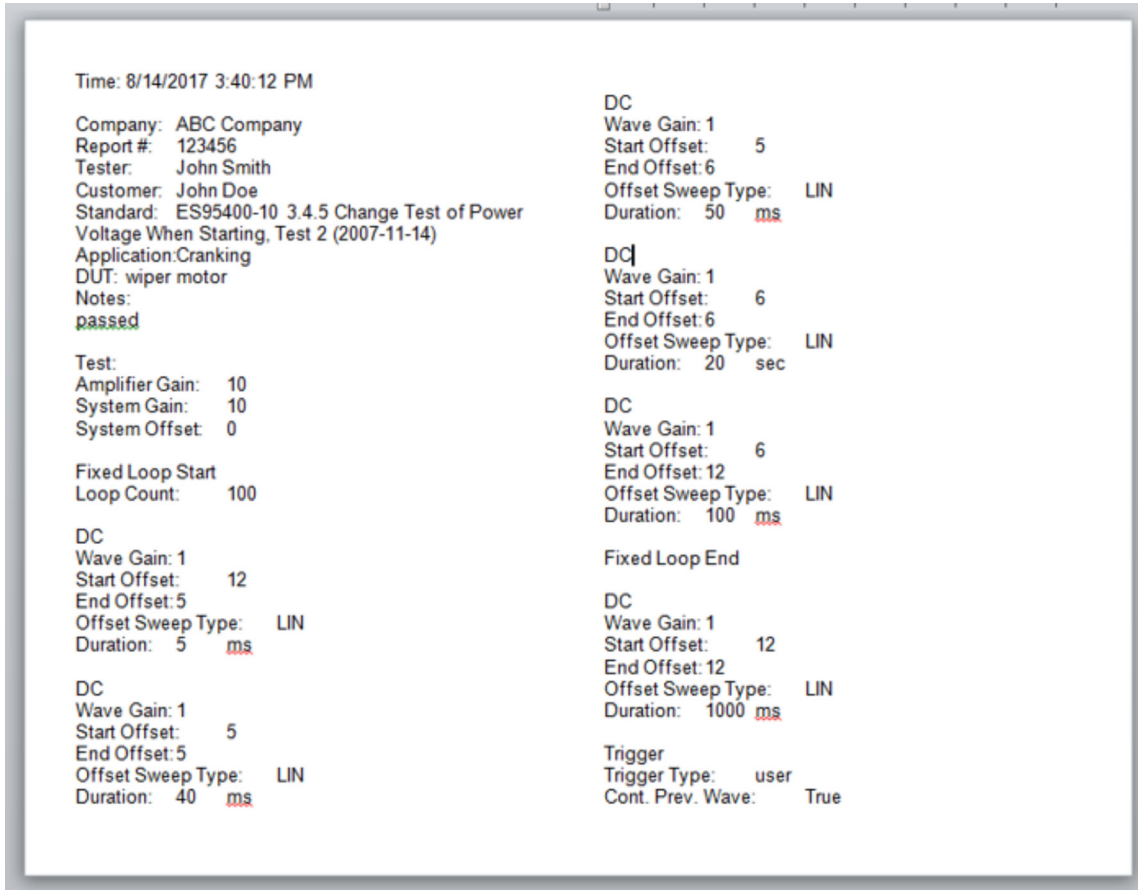

Figure 7.2 – Detailed Report Sample
**Detailed Report:** When Detailed Report is selected, a detailed listing of all test waveform parameters and sequences will be included in the generated .rtf file. See the detailed report in **Figure 7.2**.